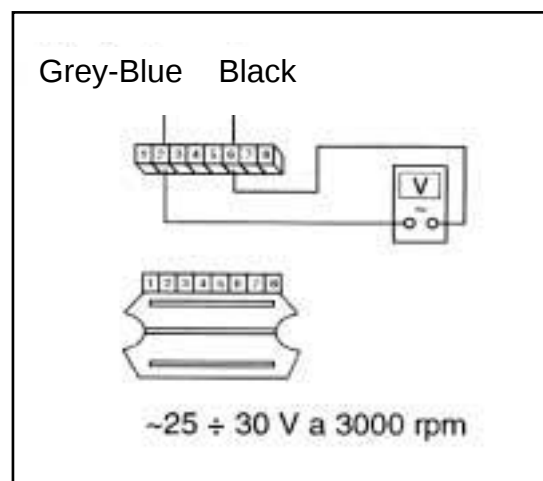

Fig. 1
- a) Check for proper distribution of current from the stator: disconnect from the regulator terminal and insert alternating current tester 020331Y between the blue/green terminal and the black cable, and check that the voltage distributed at 3,000 rpm falls between $25 \div 30$ VAC (Fig. 1)